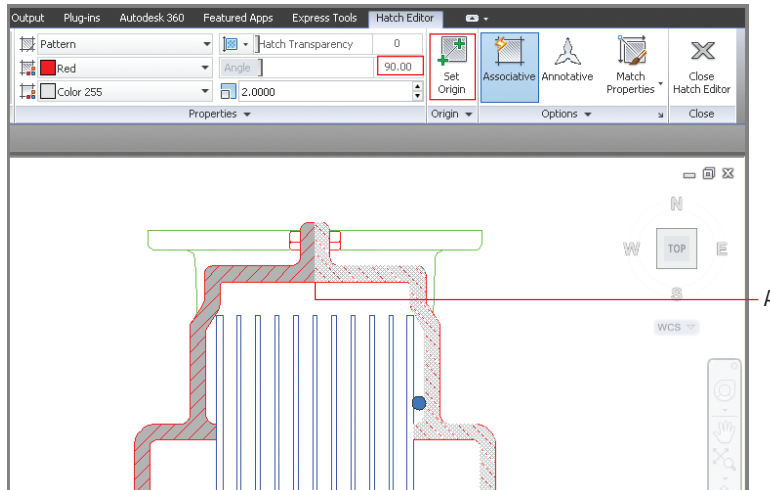

FIGURE 8.15 Changing the angle and setting the origin of an individual
5. Select the upper-right hatch pattern, type **90** in the Angle text box, and press the Tab key. Click the Set Origin button, and then click point A shown in Figure 8.15. Press Esc to exit the ribbon's Hatch Editor tab.
6. Select the hatch pattern on the left side, click the Set Origin button, click point A as shown in Figure 8.15, and press Esc. The outer patterns on the left and right both meet symmetrically at point A.